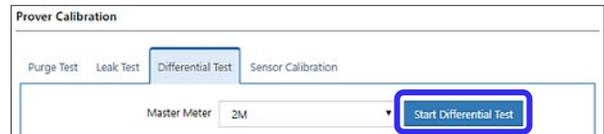

Figure 107: Click Start Differential Test to begin test
5. When you are ready to begin the test, click **Start Differential Test** (Figure 107).